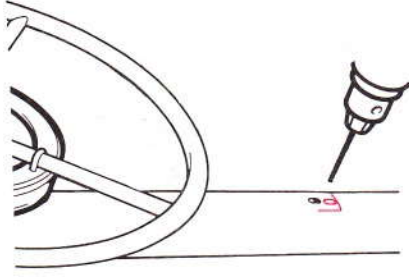
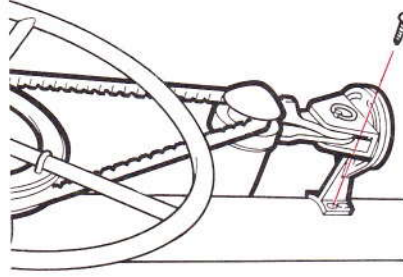

Fig.14
Fig.15
- Finally drill four 4.3mm (11/64") holes for the clevis fixing screws at the **lower** end of each elongated hole position. This allows the belt to be subsequently tightened (Fig. 14). The mounting clevis may now be screwed into position with the self tapping screws positioned **mid-way** in the elongated holes (Fig.15). This will ensure that the belt is taut when it is tensioned by rotating the clutch lever fully clockwise. Re-assemble the complete drive system and check the operation of the clutch. The clutch lever may be repositioned on the splined eccentric bush if necessary to ensure that the lever can rotate 180° without obstruction.